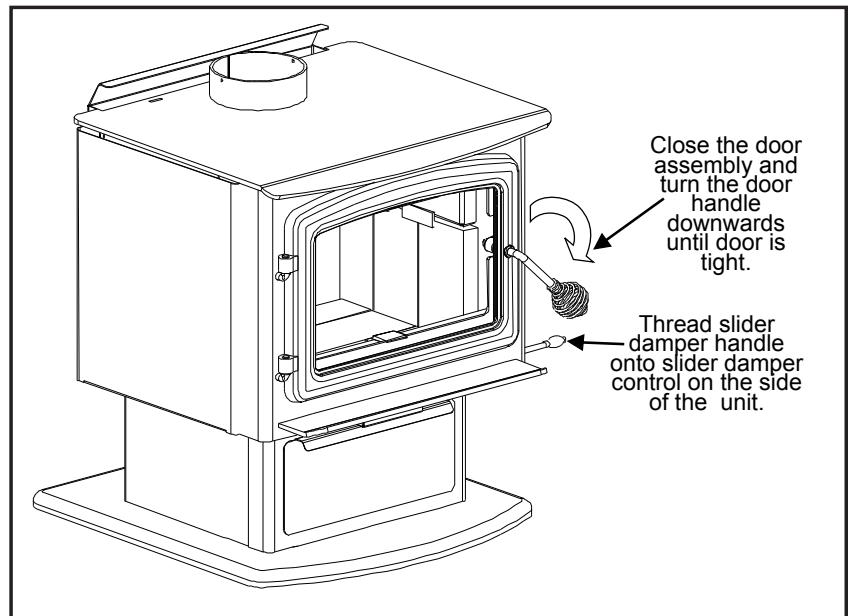

Figure 49: Closing Door.
3. Open and close the door, applying pressure down, to ensure the door assembly is properly seated on the hinges. Refer to Figure 49.